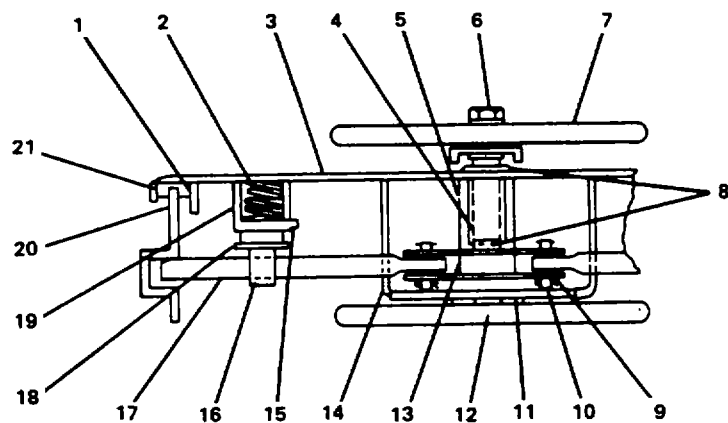

Figure 2-38. Repair Watertight Hatch. Quick Section.
- a. Remove hex nuts (6, Figure 2-38) from handwheel (7).
- b. Remove handwheel shaft (12) from hatch.
- c. Remove delrin bushings (8) and preformed packing (4) from handwheel shaft (12).
- d. Remove cover (11).
- e. Remove cotter pins (9) from cylindrical pins (10).
- f. Remove cylindrical pins (10) from dog arms (17).
- g. Loosen setscrews (15) and remove dog arms (17) with guides (16) and bronze bushing (18).
- h. Remove helical compression spring (2) from coupling (19), then remove coupling.
- i. Remove shim (13) and pipe sleeve (5) from hatch.
- j. Remove cover strap (14).
- k. Remove gasket (21) from hatch.
Repair at this level of maintenance is by replacement of delrin bushings (8, Figure 2-38), helical compression springs (2), preformed packing (4), bronze bushings (18), and gasket (21).
- a. Install cover (3. Figure 2-38).
- b. Measure the required length around the hatch for gasket (21).